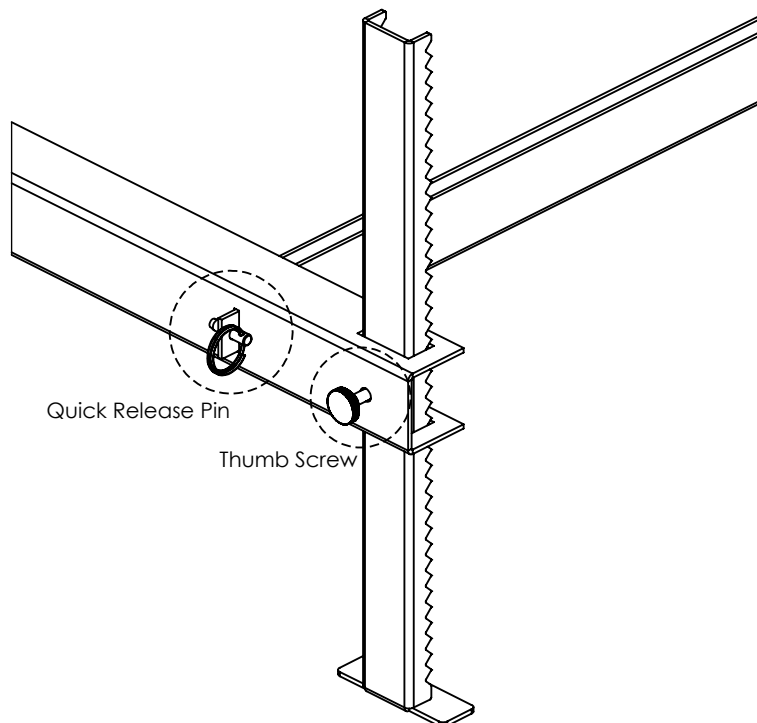

Figure 12: Close up of Front Rail
5. Attach Front Rail using the quick release pins as shown in Fig. 12.
6. Adjust leg height and lock them in using the thumb screws. (Fig 12)